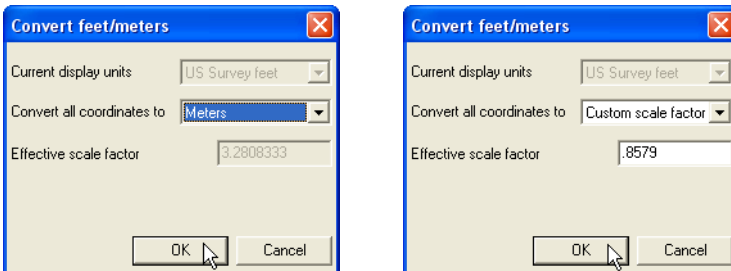

Figure 3-19. Select Conversion Type
2. On the *Convert feet/meters* dialog box, select the desired new units from the drop-down list and click **OK**. For *Custom scale factor*, enter the scale factor and click **OK** (Figure 3-19).